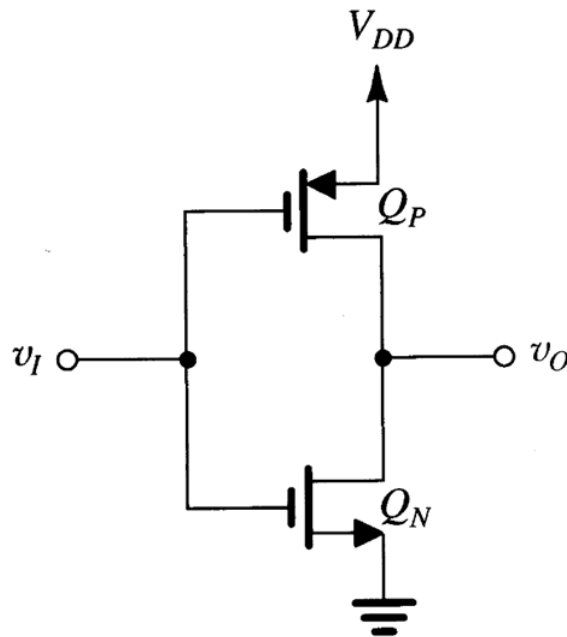

Fig. 1: The schematic view of a CMOS inverter
- 4) Consider the CMOS inverter given in Fig. 1. What are the states of  $Q_N$  and  $Q_P$  for the critical points  $V_{IL}$ ,  $V_{IH}$ ,  $V_{OL}$ ,  $V_{OH}$ , and  $V_M$ ?
- i) For the CMOS inverter given in Fig. 1, determine the critical voltages  $V_{IL}$ ,  $V_{IH}$ ,  $V_{OL}$ ,  $V_{OH}$ , and  $V_M$ . Let  $V_{DD} = 5$  V,  $V_{T,N} = -V_{T,P} = 1.5$  V,  $(W/L)_N = (W/L)_P = 5$ ,  $k_N' = k_P' = 20$   $\mu\text{A}/\text{V}^2$ . Find the noise margins.